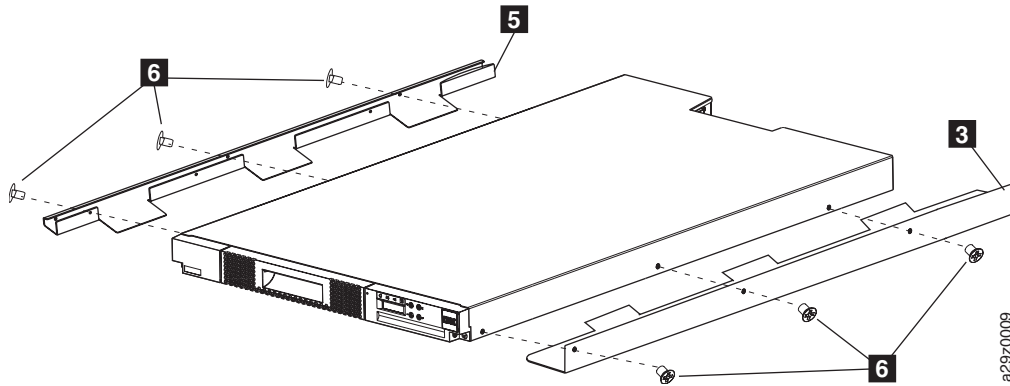

Figure 8-7. Attaching side rails to the library chassis
1. Attach the left **5** and right **3** rails to the chassis using 3 flat-head screws **6** on each side (Figure 8-7).